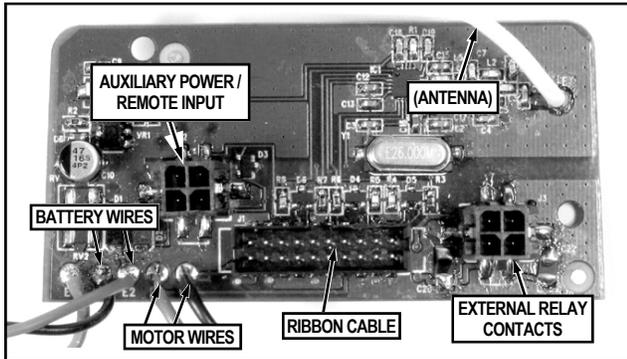

FIG. 14: RECEPTACLES LOCATED IN THE INSIDE HOUSING
4. Drilling the hole for the supplied Door Contact (labeled "DOOR CONTACT PREP" on template) is only necessary if the two white "Remote Input" wires inside the lock (see Fig. 14) will be used for Door Monitoring. If the Door Monitoring features will NOT be programmed, and the two white "Remote Input" wires will either not be used or used for a "Remote Release" only, there is NO need to drill the Door Contact hole. (**Note:** Lock programming is performed after lock is installed on the door; in addition, *these instructions will henceforth assume the Door Contact will need to be installed.*)
The two white "Remote Input" wires (see Fig. 14) can be programmed as a "Remote Release" or for "Door Monitoring" (programming is performed after lock is installed on the door):
- See Fig. 14. Before placing the inside housing onto the lock, connect the Lever Monitor Switch plugs (orange wires), plug the ribbon cable, motor wire and Auxiliary Power/Remote Input plug into their receptacles on the inside housing circuit board (these plugs and sockets fit only one way--do not force them). Seal the connectors with dielectric grease (included). Do not allow the wires to cross or lay on top of each other. Jiggle the connector cable to be sure the wire opening does not pinch wires before fastening bolts.